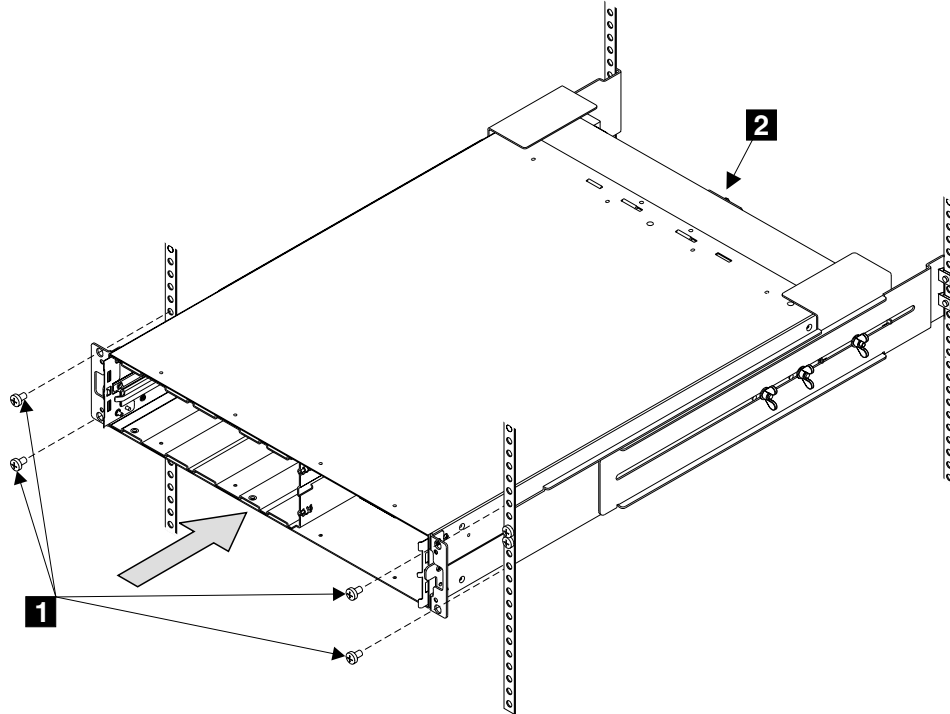

Figure 108. Replacing the uninterruptible power supply into a rack
8. Install the front flathead screws **1** (see Figure 108 on page 159).